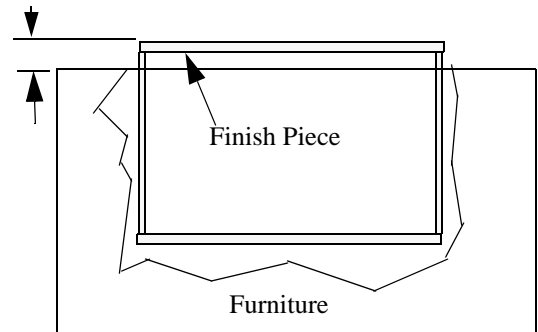

Figure 8. Side Piece Dimensions
7. Measure the distance from the top surface of the top piece to the top surface of your furniture and cut this dimension from each side piece (see Figure 8).